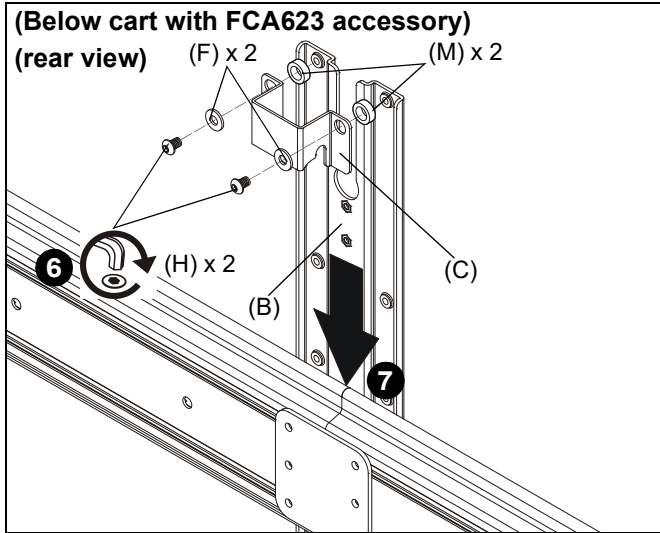

Figure 8
6. Use two 1/4-20 x 7/16" button head cap screws (N), two large washers (F) and two 1/2" spacers (M) to secure shelf bracket (C) to main bracket (B). (See Figure 8)
7. Slide main bracket (B) onto front of cart/ceiling mount head assembly until shelf bracket (C) rests on top of head assembly. (See Figure 8)